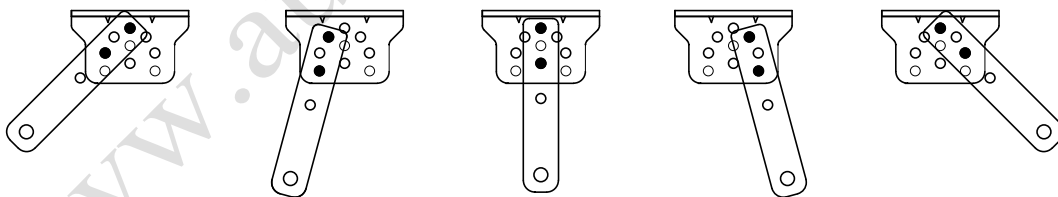

Figure 5
b) The connecting bracket and the wall bracket can be connected according to different conditions, as shown in figure 5.